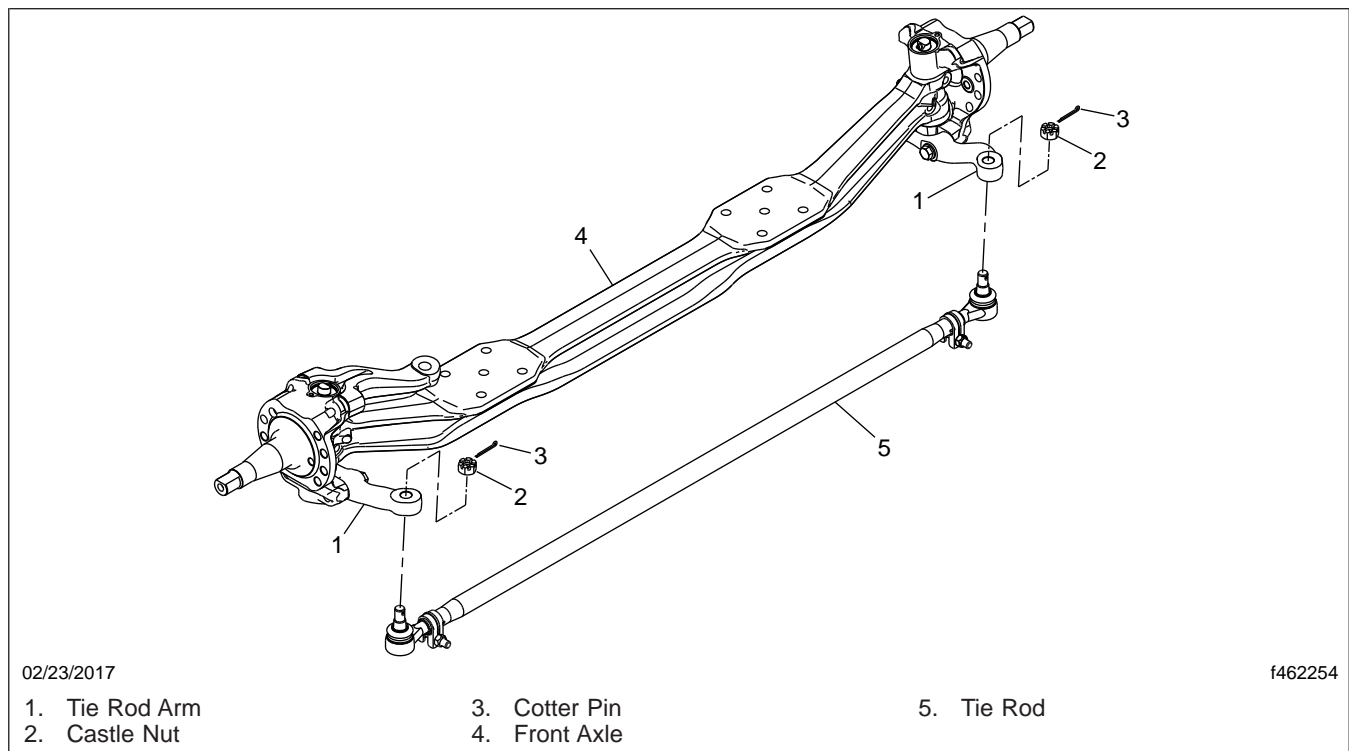

Fig. 1, Tie Rod Assembly
3. Disconnect the tie rod from the tie rod arms; see Fig. 1. Remove the tie rod from the vehicle and discard it.